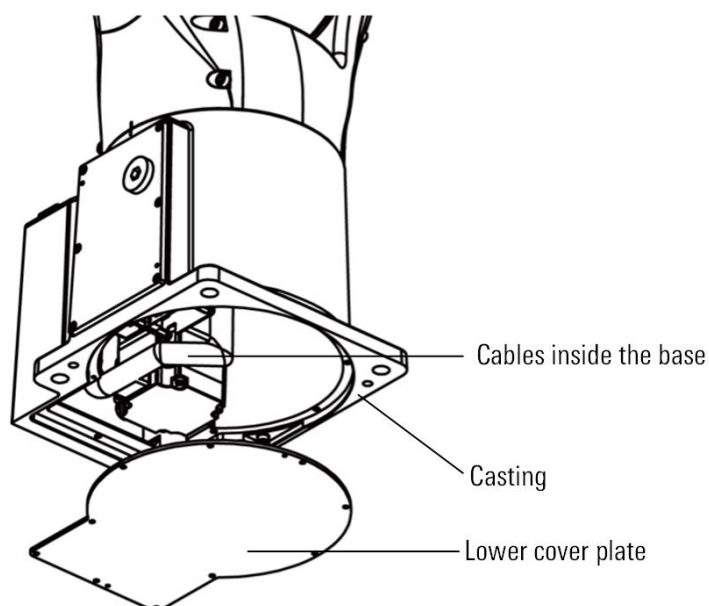

Figure 10-1 Cable inside the base
- Step1.Remove the lower cover plate of the base, as shown in Figure 10-1, and pull out the internal cables of the base.